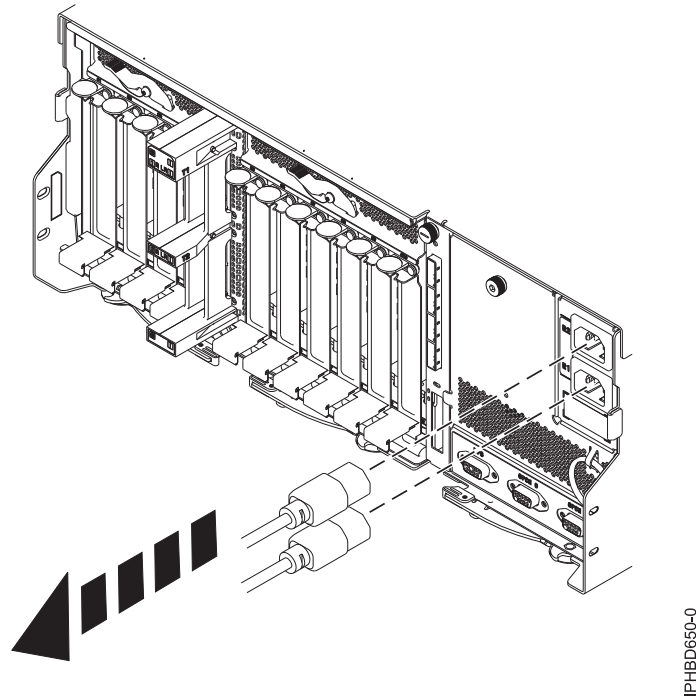

Figure 27. Disconnecting the power cables from the rear of an expansion unit
- At the rear of the expansion unit, disconnect both of the power cables, as shown in Figure 27.